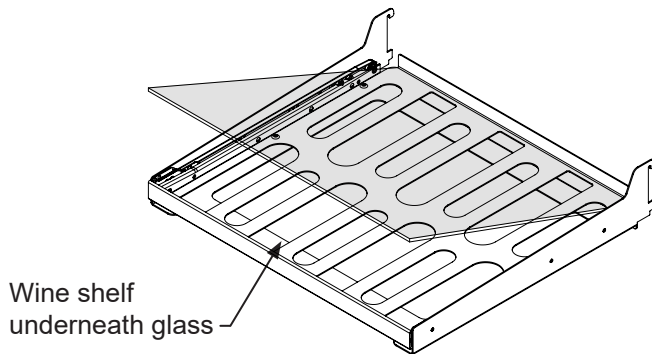

Figure 35
- (2) glide out wine convertible glass shelf. (See Figure 35).
Shown with a glass door. Figure 35.
- (1) half width flat glass cantilever shelf. (See Figure 35).
- (1) wine cutout and flat glass cantilever shelf. (See Figure 35).